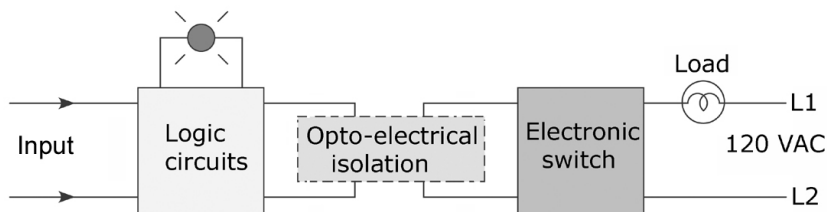

Figure 2-4 Block diagram for question 25.
25. For the block diagram of the output module shown in Figure 2-4, the input comes from the: